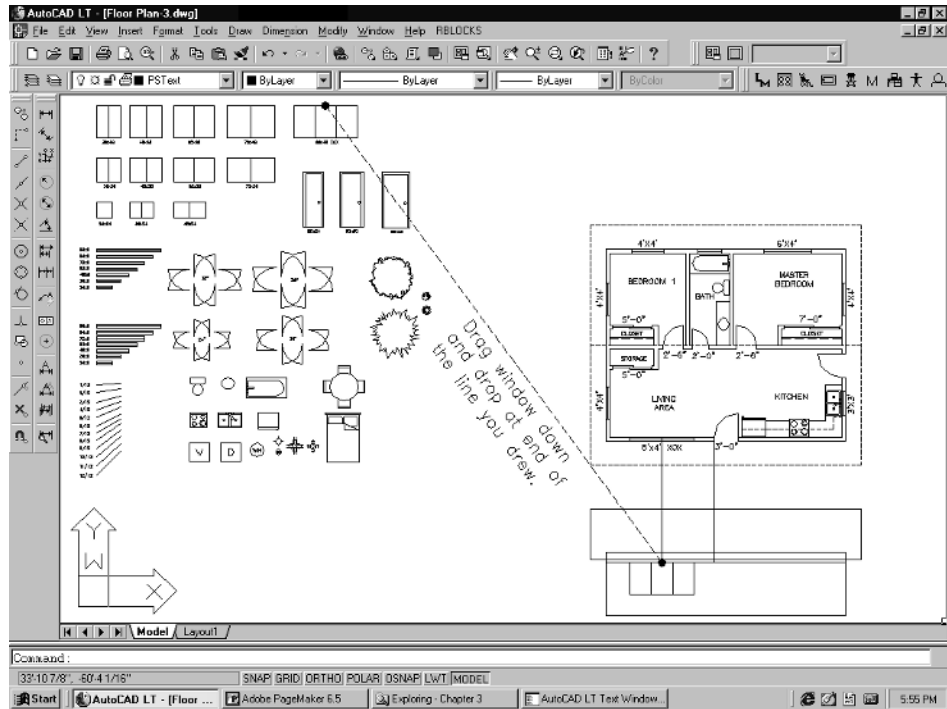

Figure 4-11
9. When prompted to *Select objects*, pick the 8' window. Then press **Enter**. At the *Specify base point or displacement, or [Multiple]* prompt, pick the window at the midpoint of the upper line of the window. At the command line prompt *Specify second point of displacement or <use first point as displacement>*, drag the window over to the elevation and drop it on the intersection of the line that you drew from the midpoint of the plan window down to the header line. See Figure 4-11.